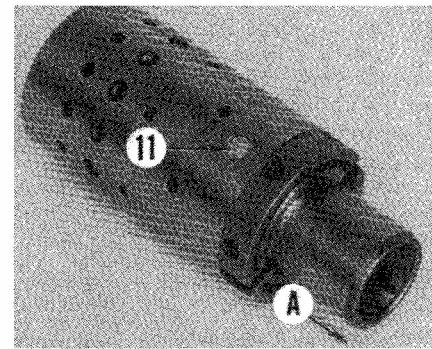
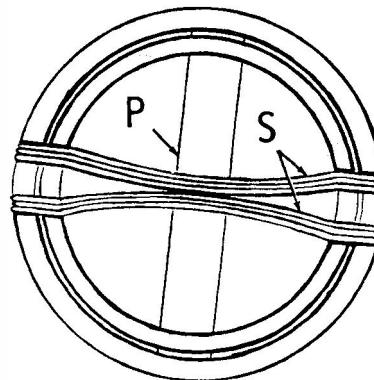
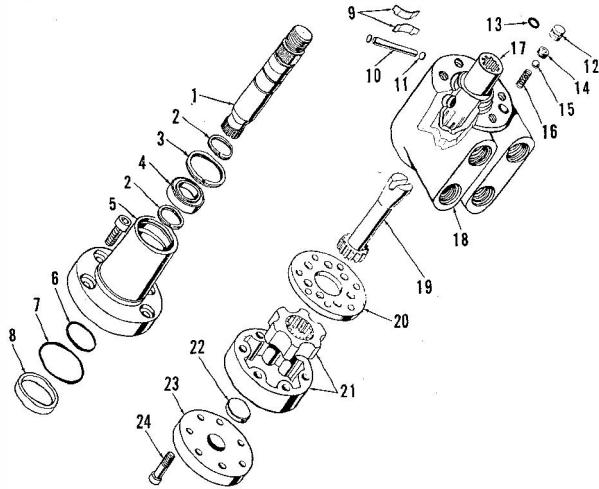
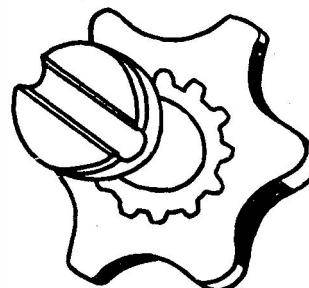

Fig. 25—View of control spool and sleeve assembly. Teflon discs (11) cover outer ends of internal pin. Withdraw spool from sleeve in direction of arrow (A).
Fig. 25A—Schematic end view of steering control sleeve and spool showing correct assembly of centering springs (S) and drive pin (P).
Fig. 24—Exploded view of Char-Lynn Orbitrol hydrostatic steering hand pump used on MF235 and MF245 Orchard models.
Fig. 26—When properly assembled, slot in end of drive link must align with valley of inner gear as shown to provide correct valve timing.
spool (17—Fig. 24) and housing (18) are available as a matched set only.
To disassemble the removed unit, first remove cap screws (24) and withdraw end plate (23), gear set (21), spacer (20) and drive link (19) as a unit. Unbolt and remove upper housing (5) and input shaft (1) as a unit. Withdraw the control spool and sleeve (17) as a unit from bottom end of housing. Remove Teflon discs (11), then push pin (10) and centering springs (9) out of sleeve. Carefully slide spool (splined end first) from sleeve (Fig. 25). Insert a bent wire through port in valve body and push plug (12—Fig. 24) from body, then remove check valve seat (14) using an Allen wrench. Remove check ball (15) and spring (16).
When assembling the unit, tighten check valve seat (14) to a torque of 17 N·m (150 in.-lbs.). Assemble spool in sleeve making sure spool rotates smoothly in sleeve. Align spring slots in spool and sleeve, then insert centering springs (two sets of three each) so arched center sections are together as shown in Fig. 25A. Insert pin (10—Fig. 24) into spool and sleeve assembly and install a Teflon disc (11) at each end of pin.
Be sure pin slot in drive shaft (Fig. 26) is aligned with a valley of inner rotor to ensure correct timing of control sleeve. If drive slot is improperly aligned, steering unit will operate in reverse or "kick back" when hydraulic pressure is applied. Assemble drive link (19—Fig. 24), spacer (20), gear set (21) and spacer (22) onto valve body. Note that spacer (22) should be flush with outer surface of gears if drive link is properly engaged with control spool pin. Install end cover (23) and tighten retaining cap screws evenly to 17 N·m (150 in.-lbs.) torque.